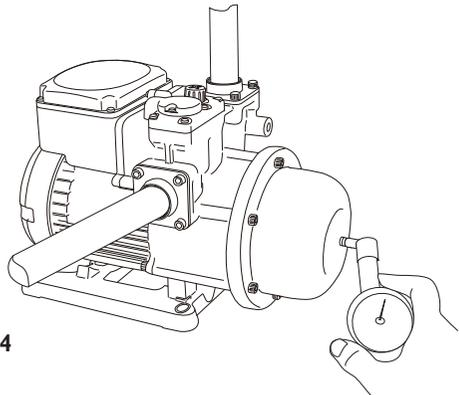

**Fig. 3**
3. If the pump sticks after periods of inactivity, a screw driver slot is provided on the motor shaft end to free up the pump/motor. To do so, insert a screw driver in the slot in the motor shaft as shown in Fig 3 and turn to free the rotor. If this does not remedy the problem, the unit will need dismantling.